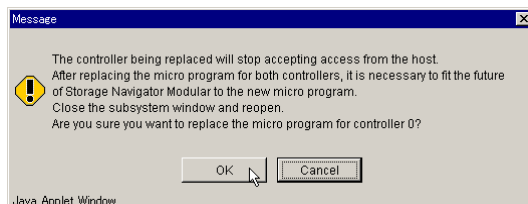

Figure 9.48 Confirmation Message
4. A confirmation message displays. Click **OK**. See Figure 9.48.